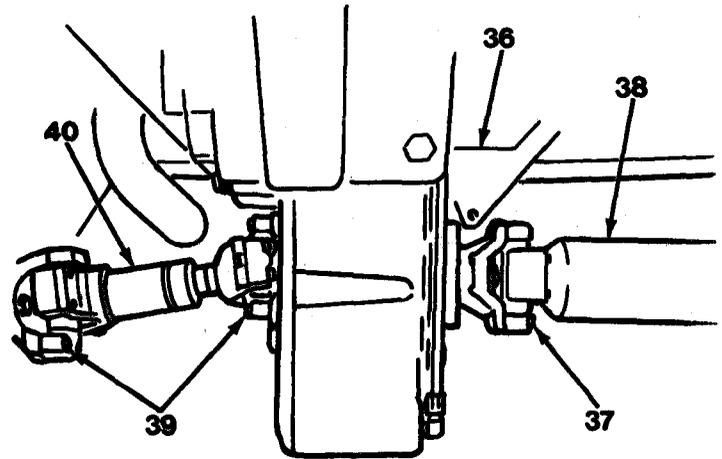

Figure 6-5
12. Remove shift bracket (36, Figure 6-5) as an assembly from transmission (refer to page 11-80).
13. Remove four capscrews (37) and disconnect front drive shaft (38) from transmission. Support front drive shaft (38) on suitable blocks.
14. Remove eight capscrews (39) and rear drive shaft (40) from transmission and rear axle.